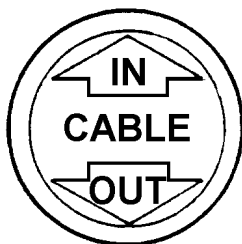

FIGURE 4.5
- (b) Lift vehicle to be towed by retrieving cable slowly with use of Cable "IN/OUT" Control. See Figure 4.5.